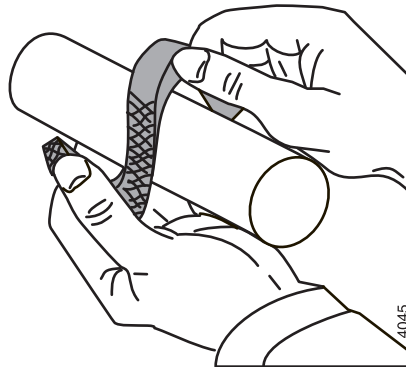

Figure 16: Axially bending open packing rings.
- 1 Fit the 5 packing rings. Place the packing rings with the openings offset. The packing rings may only be bent open axially, see figure 16.